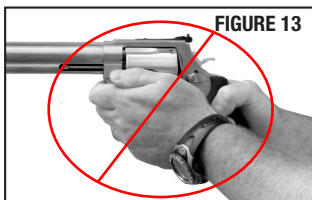

FIGURE 13
- Never allow hands or fingers to extend beyond the front of the cylinder when firing (FIGURES 13 & 14). This is an improper hold for any revolver.